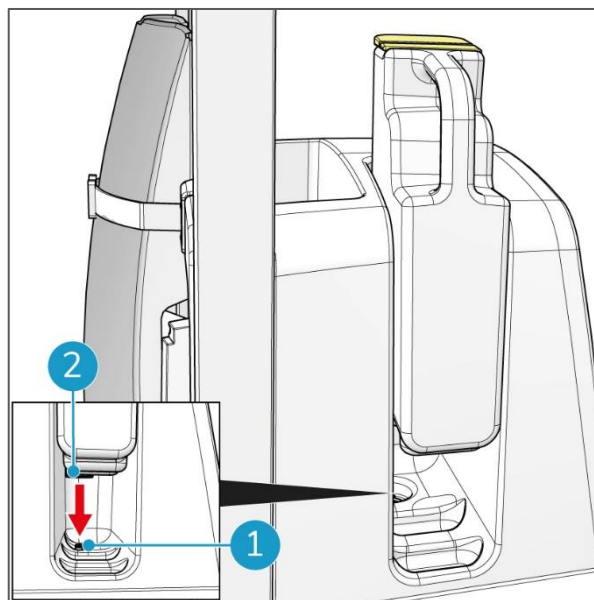

Figure 56
11. Press the tank downward to make sure that the valve (Figure 56, pos 2) is locked onto the detergent tank connector (Figure 56, pos 1).